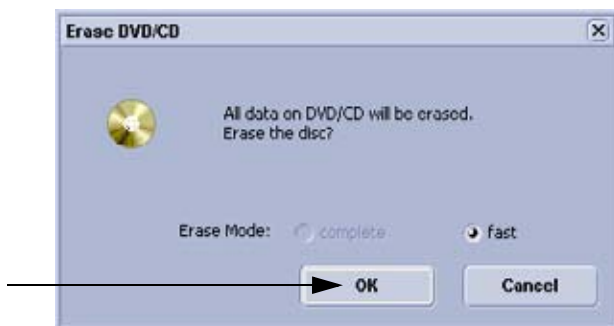

Figure 4-18 Erase DVD/CD Window
- 4.) Click the **ERASE CD** button to displays the “Erase DVD/CD” window as shown in Figure 4-18.